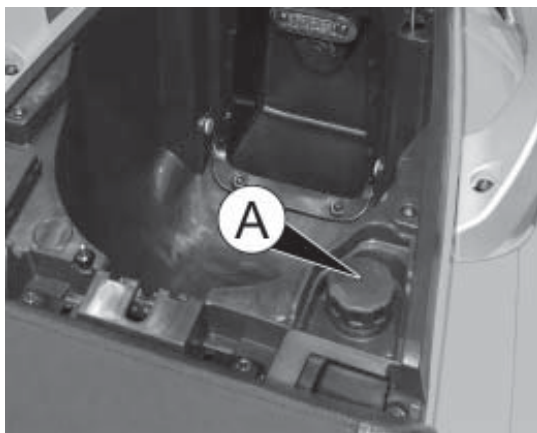

fig. 4
- Unscrew the cap A in fig.4 (green).